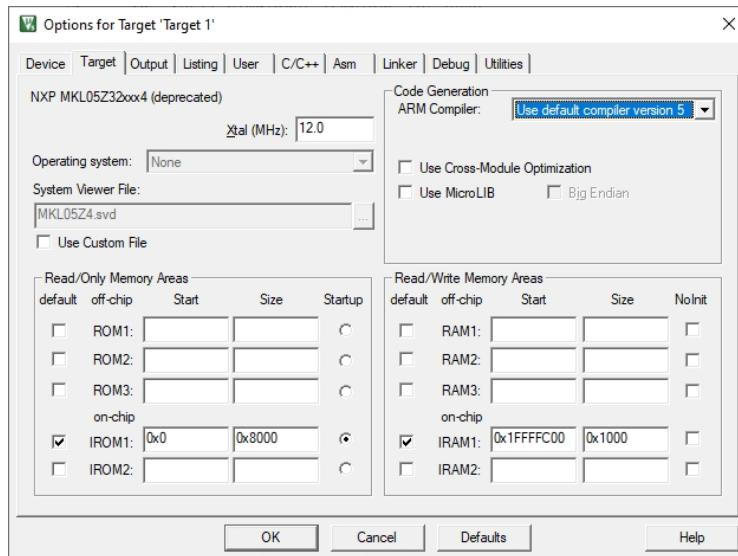

Figure 13. Setting Options for Target Compiler
- On the second toolbar row, click the  Target Options icon (or select menu Project→Options for Target 'Target1' ...) to launch the Options for Target 'Target1' window, as shown in Figure 13.
- Click on the Target tab along the top of the window to get the options shown in Figure 13.
- At the top right, under the tabs, in the Code Generation options, use the pull-down dialog to the right of ARM Compiler to select Use default compiler version 5, as shown in Figure 13.